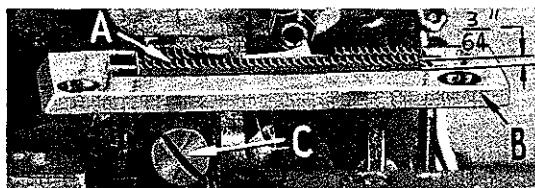
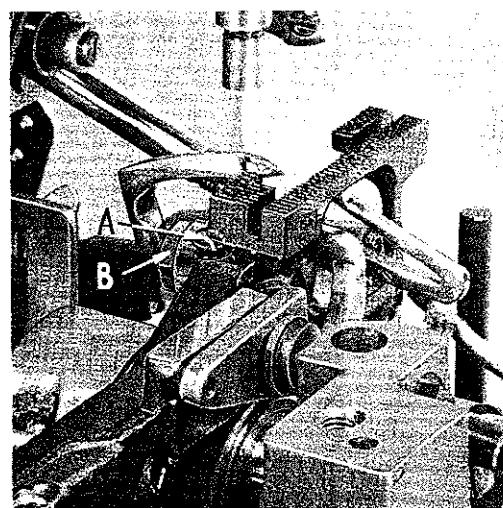
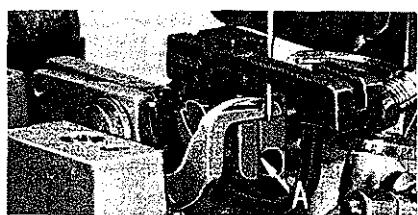

Fig. 7
Fig. 8
Fig. 9
If feed dog teeth are not parallel with the throat plate, loosen nut (B, Fig. 8) and turn screw (A, Fig. 9) clockwise to lower the front teeth, and counterclockwise to raise the front teeth. Retighten nut when feed dog is set properly.
Set the feed dog (A, Fig. 7) in the throat plate (B) so there is equal clearance on all sides and that the tips of the teeth are parallel with and project $3/64$ inch above the throat plate at high point of travel. Adjust the supporting screw (A, Fig. 8) under the feed dog to maintain this setting. Screw (C, Fig. 7) is used to